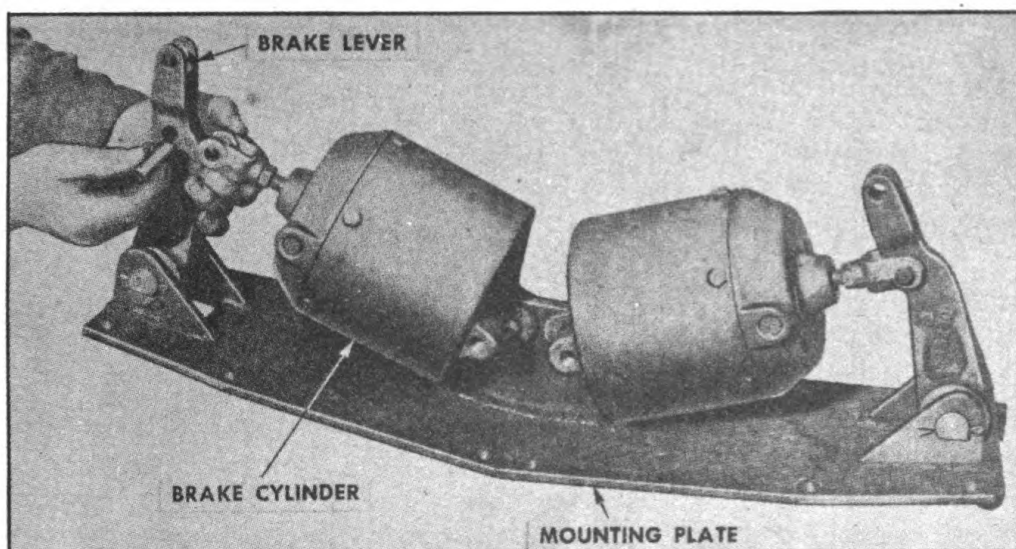

FIGURE 34. REMOVING CYLINDER FROM MOUNTING PLATE
(6) After brake mounting plate has been removed the brake cylinder may very easily be dismantled. Just remove the two clevis pins from brake lever and mounting bracket (Figure 34).
c. Replacement.—(1) Replacement of cylinder is in reverse of removal procedure.